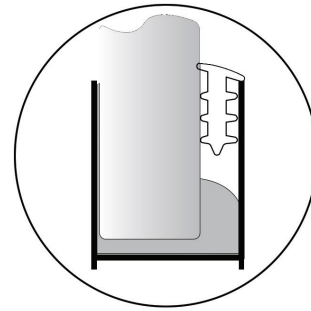

FIG 11.
- Starting at the top of the wall channel, from outside shower, spray with warm soapy water then insert rubber wedge seal into gap (removing timber wedges if used)(**FIG 11**). Leave rubber wedge protruding 4 mm at top to cut off later.